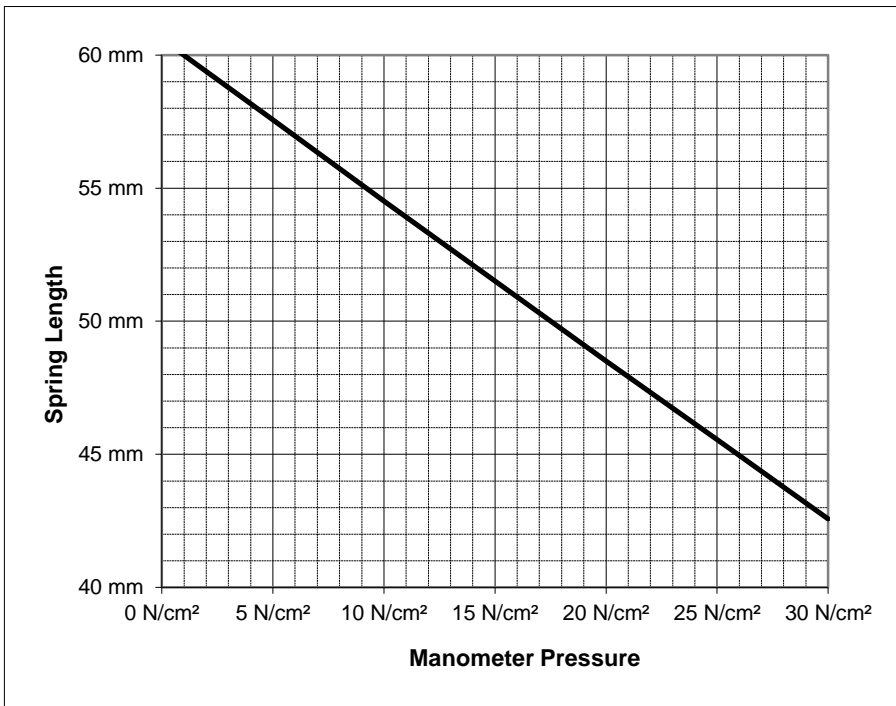

Figure 6.4.3
- Utilizing the provided calibration certificate, plot recorded spring length measurements vs. pressure. The resulting curve should be linear and decreasing. An example of a successful calibration curve is shown in Figure 6.4.3.